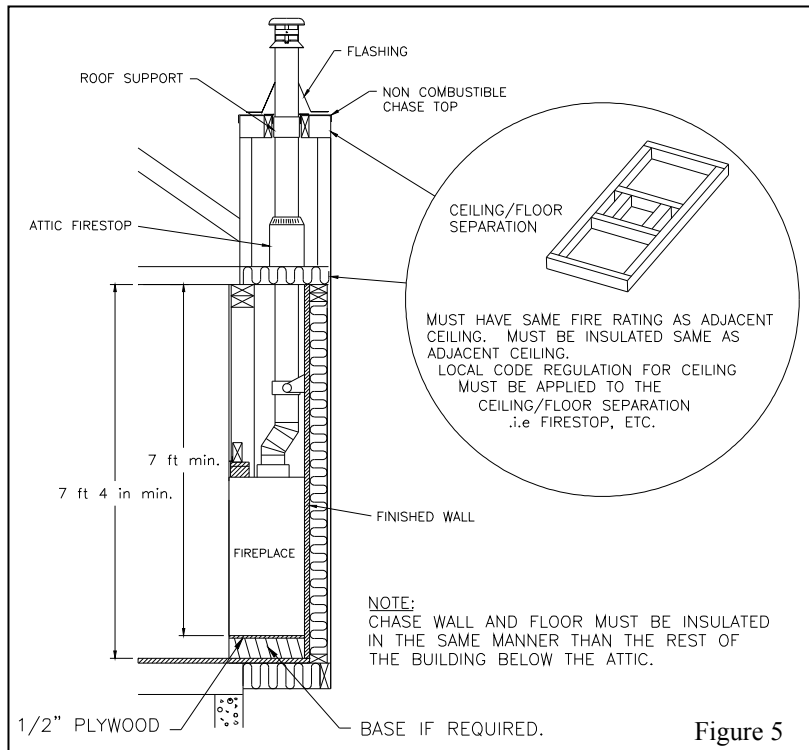

Figure 5
2. The fireplace must be installed against a finished wall (like drywall finish). It must not be installed against a vapor barrier or exposed insulation (see figure 5).